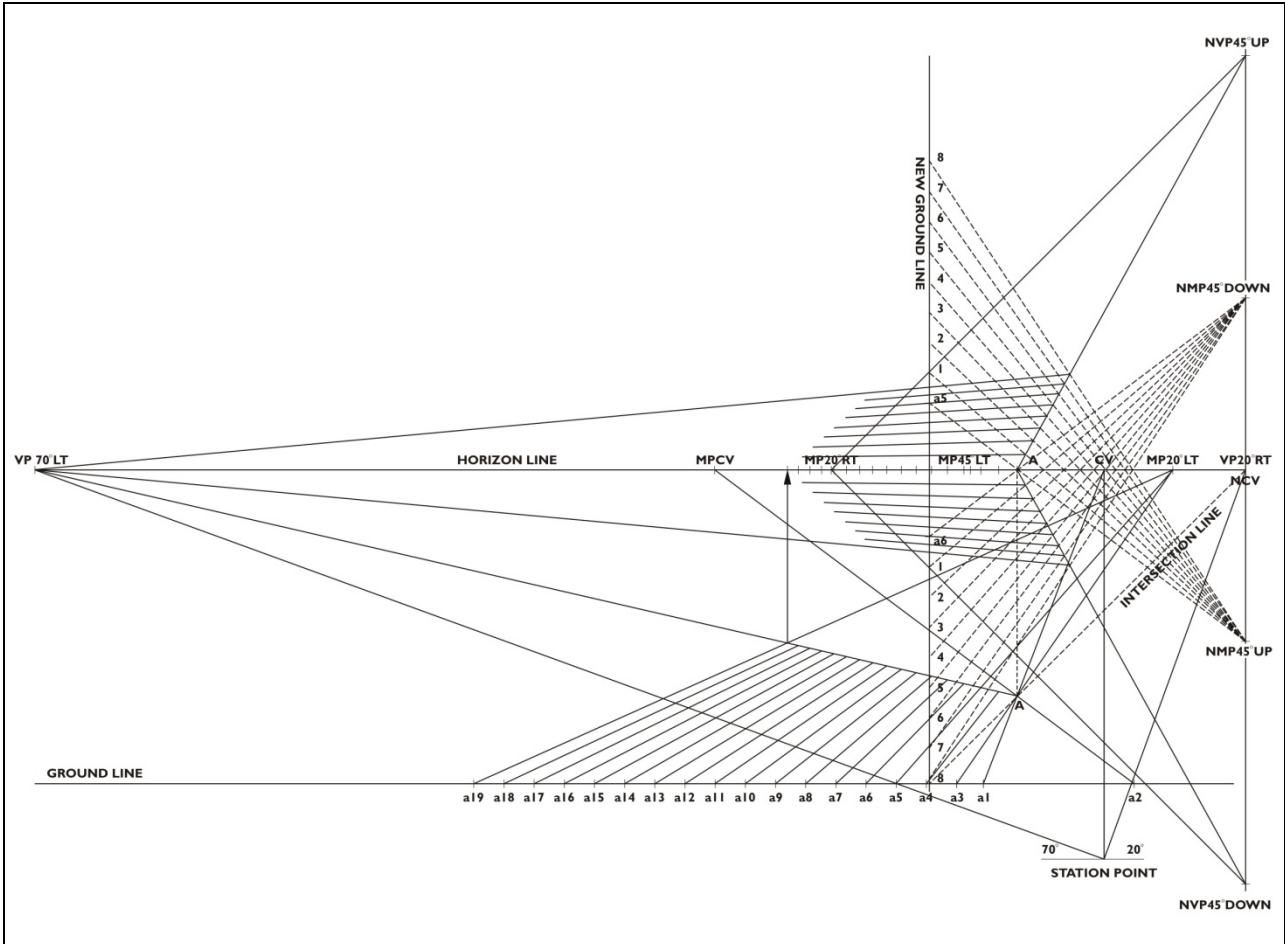

Figure 5.16 Construction of Three-Point Perspective Grid
1. Where the measuring lines intersect the vanishing line from A to NVP 45° Up, these become the perspective foreshortened grid points. Project each of these points back to VP 70° Left. Repeat to create the other plane. Refer to Figure 5.16.